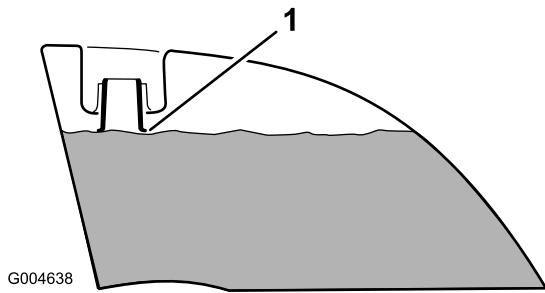

Figure 9
4. Add fuel to both fuel tanks, until the level is even with the bottom of the filler neck (Figure 9). Do not over fill the fuel tanks.